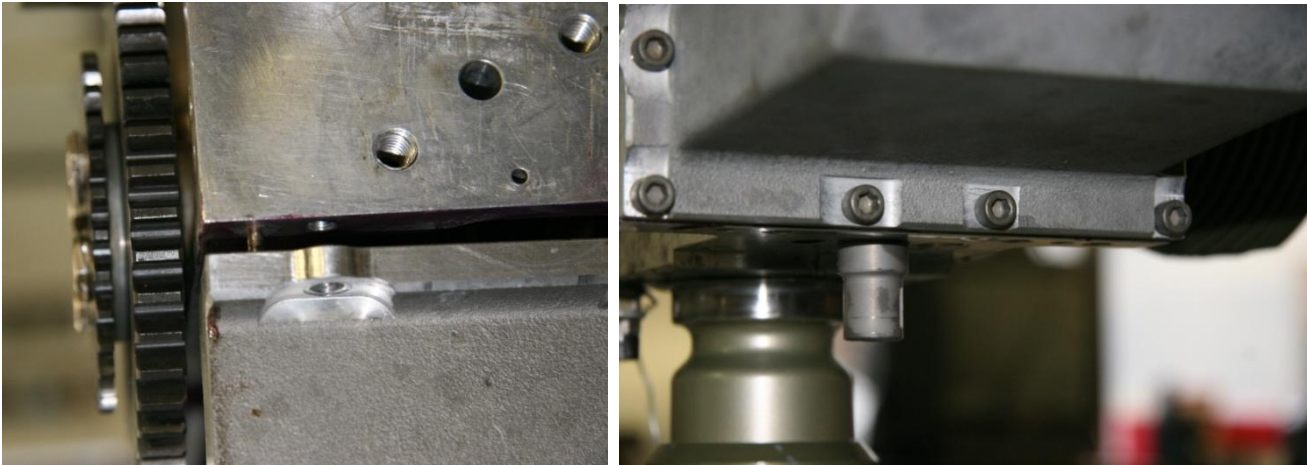

Figure 162 – Fitting Sump
- Fit the sump using cap screws and locating pins as shown in Figure 162. Note that on early engines the length of the screw which is in line with the internal oil pickup is 5/8" long compared to 3/4" for all other locations. Later sumps have a raised boss for this position allowing the longer screw to be used.